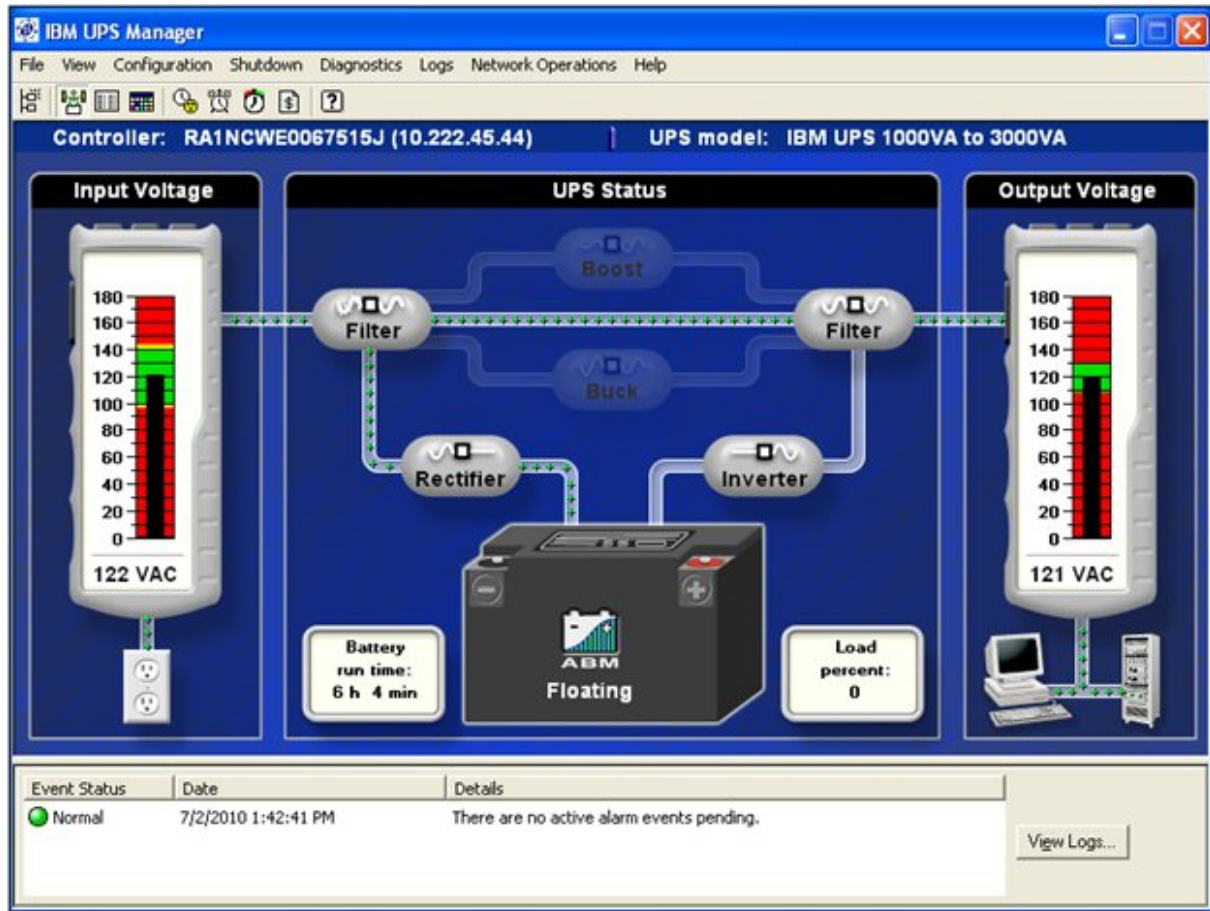

Figure 8. IBM UPS Manager normal status window
- Allows configuration of automatic email messages in response to UPS alarms and to transmit periodic reports (Figure 8)
Figure 8 shows normal operating using the IBM UPS Manager. The input voltage is 122 V, which is within the acceptable range, and is shown in the left pane. The output voltage of the UPS is 121 V and is also within the acceptable range. The battery is in *floating* mode, which is the second stage of the Eaton Advanced Battery Management (ABM) three-stage charging technology.